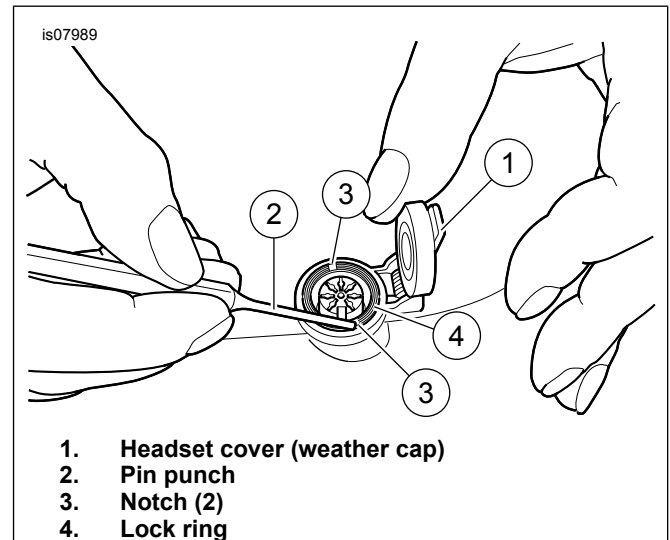
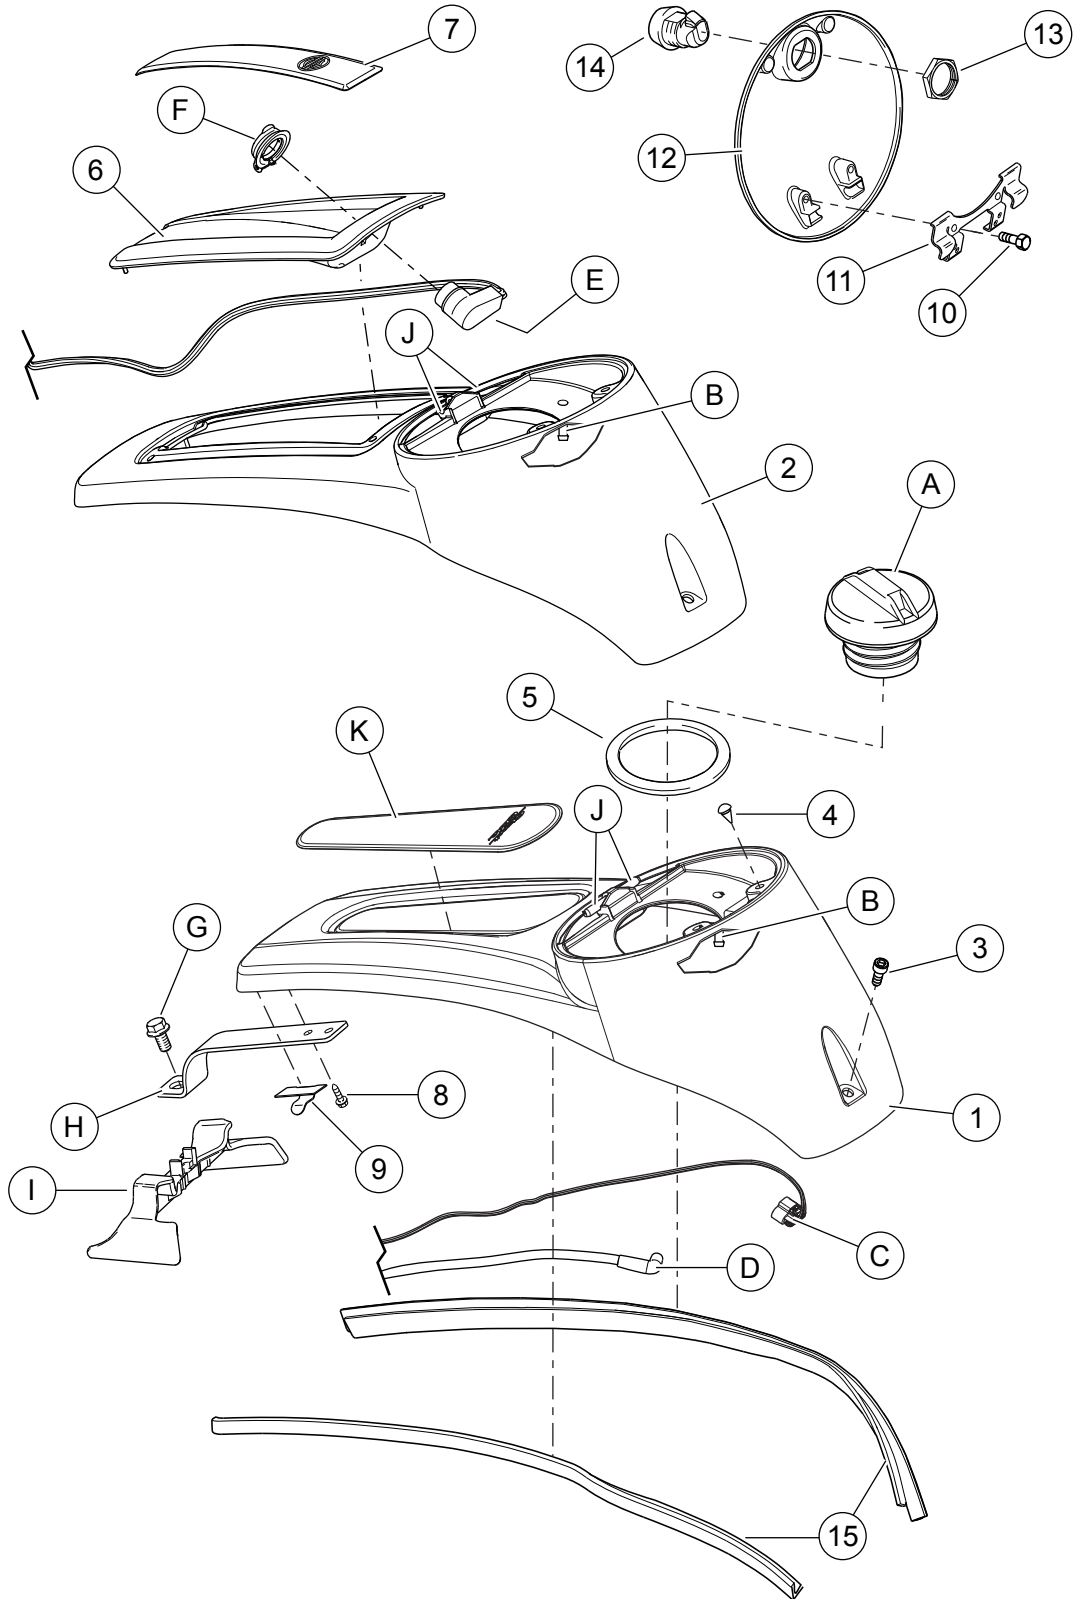

Figure 1. Remove/Install Headset Connector Lock Ring
Figure 2. Service Parts: Console, Fuel Door, Fuel Door Release Kits
See Figure 2 and Table 1.
2. See Figure 2. Open the fuel door (12). Remove and retain fuel filler cap (A).
3. Remove and discard screw (3). Remove and retain screw (G).
4. Carefully remove currently installed console (1) or (2).
5. Note location and orientation of fuel pump connector (C). Unplug connector from block if necessary.
6. Remove drain tube (D) from drain nipple (B).
7. Note tube and harness that are under clips (9).
8. **Models with front headset connector:** See Figure 1. Open headset cover (1). Place pin punch (2) in either notch (3) of lock ring (4). Rotate counterclockwise to loosen.
9. Remove lock ring (4) and cap (see Figure 2, Item F).
10. **All models:** See Figure 2. Remove screws (8) and bracket (H). Retain bracket. Discard screws.
11. **If reusing fuel door and latch/lock:** Remove and retain screws (10), clip (11) and fuel door (12).
1. See Figure 2. Clean the area on the console (1 or 2) where console insert (6 or K) is applied.
4. **Models with front headset connector:** Insert the headset connector (E) through the insert (6).
5. Slide weather cap over headset connector (F).
6. See Figure 1. With the notches (3) on the outboard side, thread lock ring (4) onto the headset connector.
7. Place pin punch (2) over either notch. Rotate clockwise until tight.
8. **All models:** See Figure 2. Install bracket (H). Secure with **new** screws (8).
9. Install rubber molding (15) to console (1 or 2). The longer edge of each rubber molding goes on the **inboard** side.
10. Install boot (5) so the smooth side is facing **up**.
11. Install bumpers (4) into console as shown.
12. Route the drain tube (D) and wires (C or E) under console. Install clips (9) to secure.